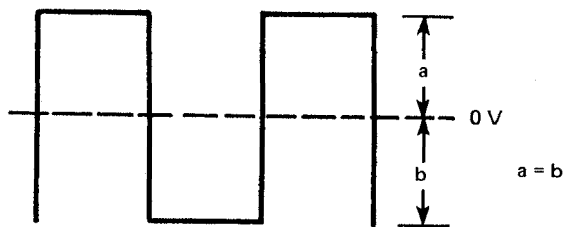

Figure 6-6. Square Wave Level Adjustment
6. Adjust VR201 so that the dc level is zero volts. Refer to Fig. 6-6.